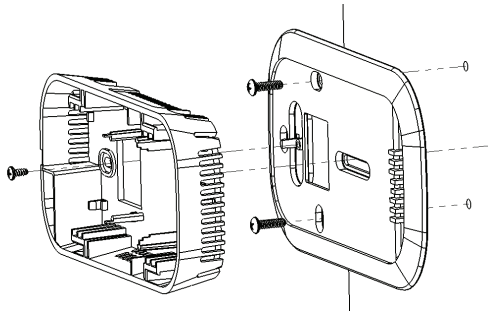

Fig. 3.e Mounting instructions for DPW versions with DPTR000001
- For switch box not compatible with screw locations, use 1 screw 2.9x6.5mm to fix product to frame DPTR000001 (to purchase separately) and use 2 screws 3.5x45 to fix frame to switch box (Fig. 3.e).